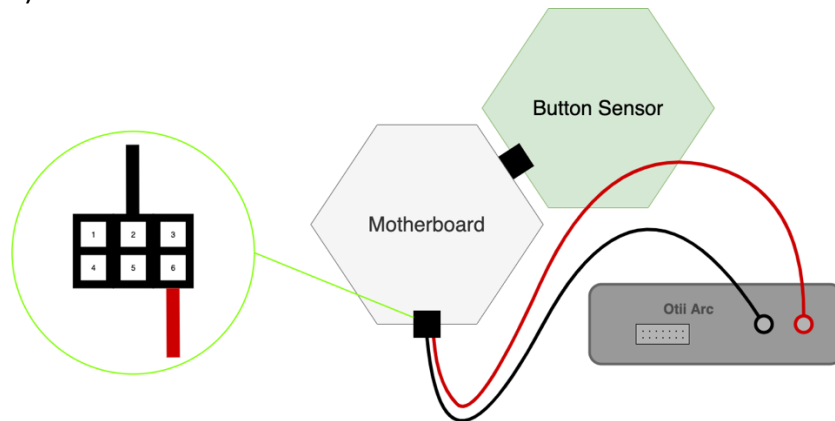

Figure 11 Connect the motherboard, the buttons board and the Otii Arc (LOC 1)
1. Plug the motherboard, the buttons board and the *Otii ARC* according to the scheme fig. 11 (refer to annex A in order to understand how to configure the measuring device *Otii ARC*).